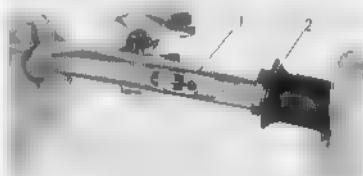

Fig. 4.15 Assembling throttle grip
- Apply grease on both the inside and outside of the pipe where the throttle grip is to be installed. This is to lubricate the movement of the throttle grip ② and its component parts. (Fig. 4.15)